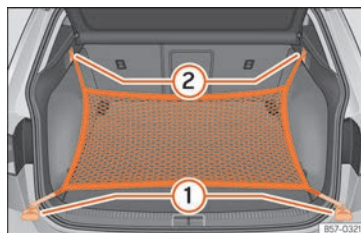

Fig. 179 In the boot: rings ① and hooks ② for attaching the net bag.
- Secure the short net hooks to the fastening rings » » Fig. 179 ① » » ⚠. The bag zip should be facing upwards.
- Secure the straps in the bag hooks ②.